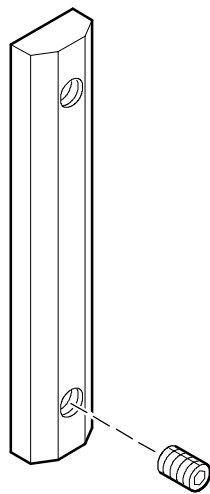

Figure 10: Preparing the Long Rails
1. Prepare each of the two long rails by installing a set screw in one of the threaded holes, as shown in Figure 10. Insert the set screw, positioned with the hexagonal wrench hole out, into the side of the long rail with the bevels. Do not screw the set screw all the way in to the long rail; only thread it far enough to get it started.